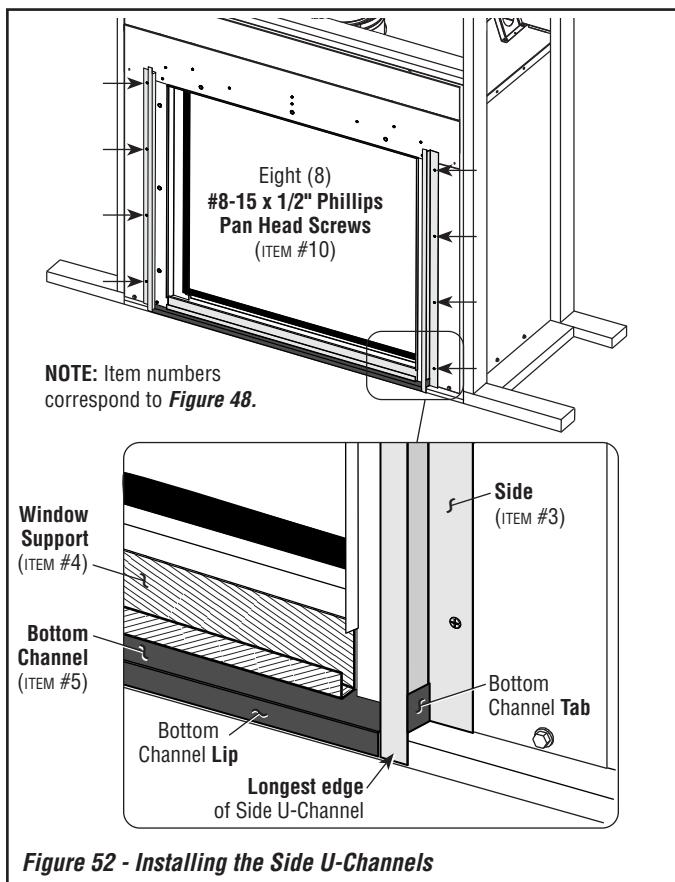

Figure 52 - Installing the Side U-Channels
4. See **Figure 52**. Hold one of the **Side U-Channels** (ITEM #3) with the **longest edge** facing OUT and the channel turned away from the window. Hook the end of the Side U-Channel over the **Tab** on the Bottom Channel. The **longest edge** of the Side U-Channel should hang down flush with the **Lip** on the Bottom Channel.
Attach four (4) of the **#8-15 x 1/2" Phillips Pan Head Screws** (ITEM #10) (see arrows in **Figure 52**).